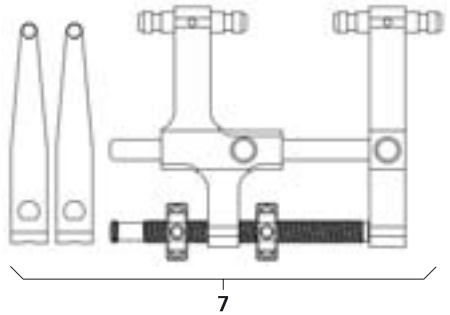

Fig. 7
- Mount distractor **7** with the distraction blades, see Fig. 7.